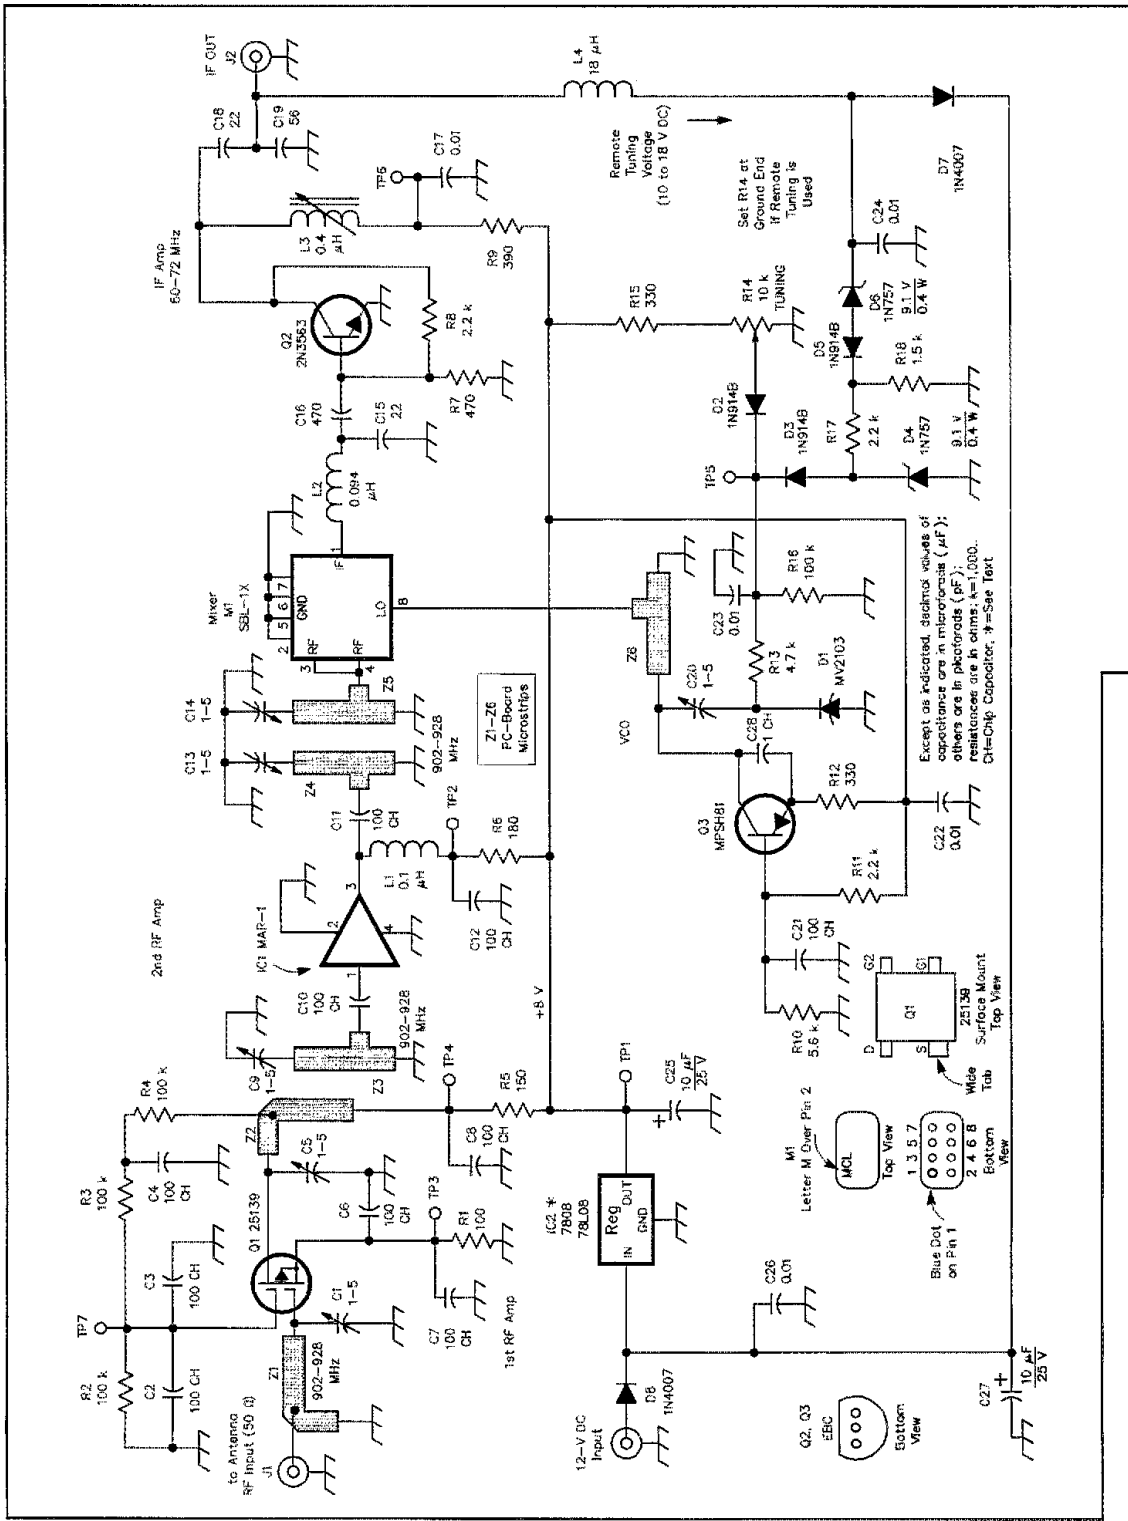

Figure 6—Schematic of the 915-MHz downconverter. Unless otherwise specified, all resistors are 1/8-W units.
Refer to Figure 6. Incoming signals are routed from J1 to a tap on microstrip inductor Z1, which is tuned to resonance at 915 MHz (the band center frequency) by trimmer C1 and the gate-input capacitance of MESFET Q1, the first RF amplifier stage. Q1's drain current is about 8 mA. Chip ca-
1) Refer to Figure 6 while performing the checks listed in the caption. Unless otherwise stated, the negative meter lead is connected to the negative power-supply terminal.